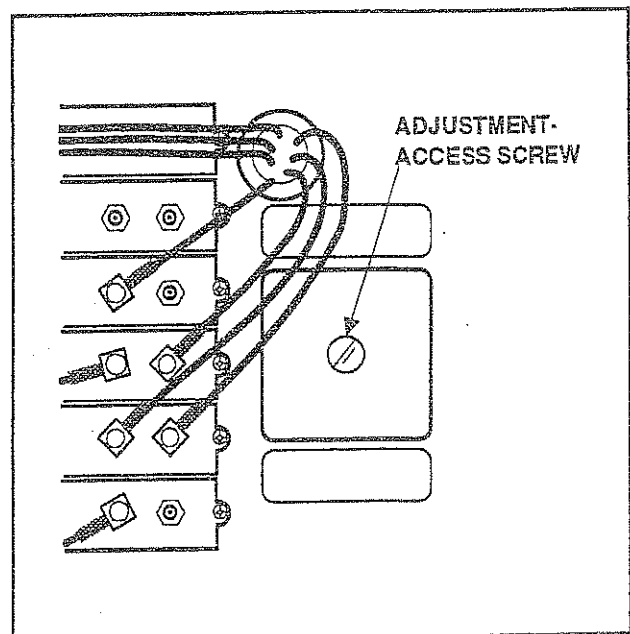

Figure 3-7. 10 MHz Reference Oscillator Oven Tuning Screw Location
2. Remove the adjustment-access screw from the top of the 10 MHz Reference Oscillator oven (see Figure 3-7).